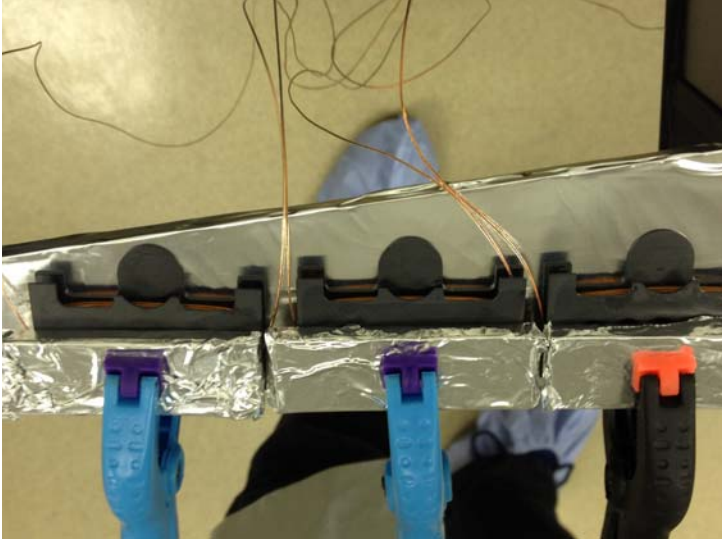

Figure 1. Bobbins clamped to spring blade.
13. Lay the Bobbin on the blade spring, apply a clamp plate (see section 2 above), and then clamp together with a spring clamp. See Figure 1 below.